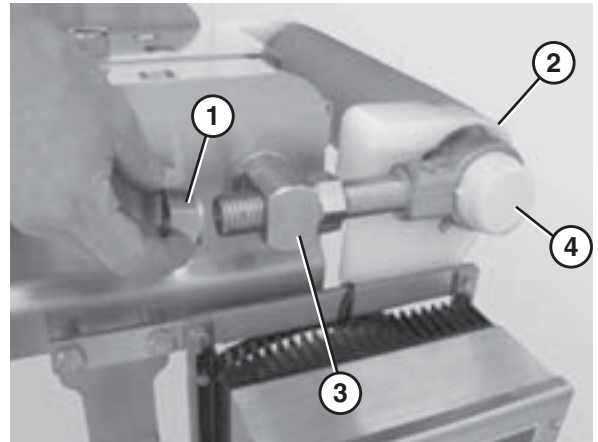

Figure 70
1. Remove the back nuts (Figure 70, item 1) on both idler tail shafts.
2. Slide the idler tail assembly (Figure 70, item 2) out of the take up blocks (Figure 70, item 3).
3. Remove the bearing covers (Figure 70, item 4).